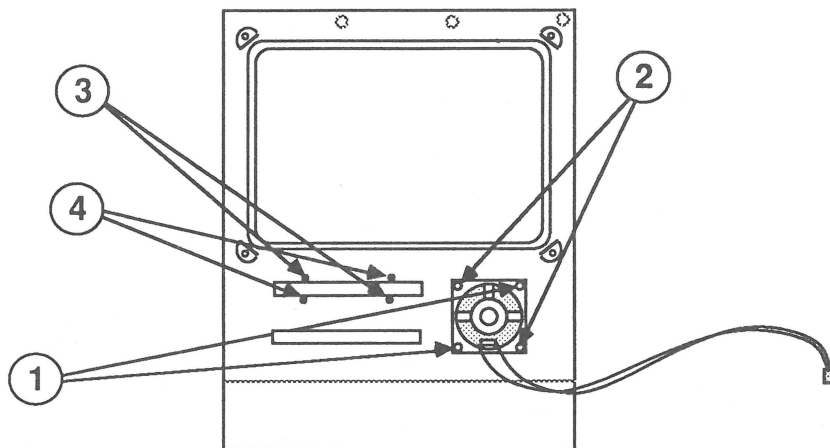

FIGURE 42
6. If you are removing the speaker, use an exacto knife to cut away the melted plastic that secures two corners of the speaker to the inside of the front bezel (Figure 42, #1), and lift the speaker out.
7. If you are removing the slot cover from a Macintosh SE, use an exacto knife to cut away the melted plastic that secures two corners of the slot cover to the inside of the front bezel (Figure 42, #3). Gently push the slot cover through the slot and lift it out.
2. If you are replacing the speaker, position the speaker in the bezel (see Figure 42). Touch a heated soldering iron to the two previously unmelted plastic posts that now protrude through the corners of the speaker (Figure 42, #2). The plastic will spread as it melts, then harden and hold the speaker in place.
3. If you are replacing the slot cover on a Macintosh SE, position the slot cover in the bezel (see Figure 42) with the plastic LED window beside the small hole on the front bezel. Touch a heated soldering iron to the two unmelted plastic posts on the slot cover (Figure 42, #4). The plastic will melt, then harden and hold the slot cover in place.